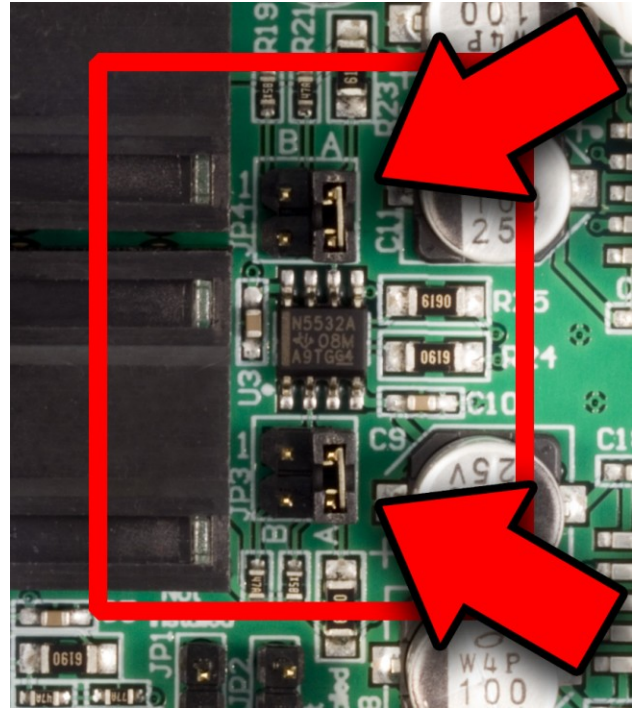

Figure 3 - HPA2™ Gain is 0 dB
- **Gain = 0 dB** - see **Figure 3**